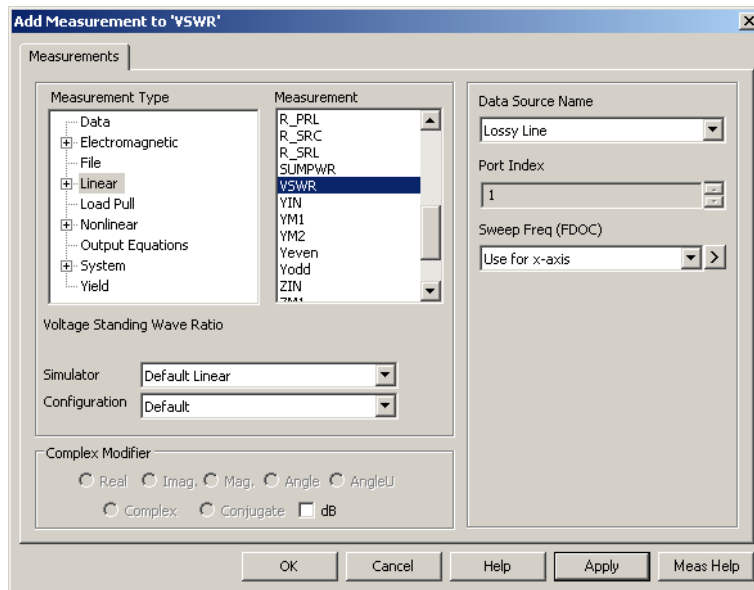

Figure 6.6: Chart 4 : Add Measurement Dialogue Box for VSWR (Rectangular Graph)
- Change your measurement dialogue box to match figure 6.6.